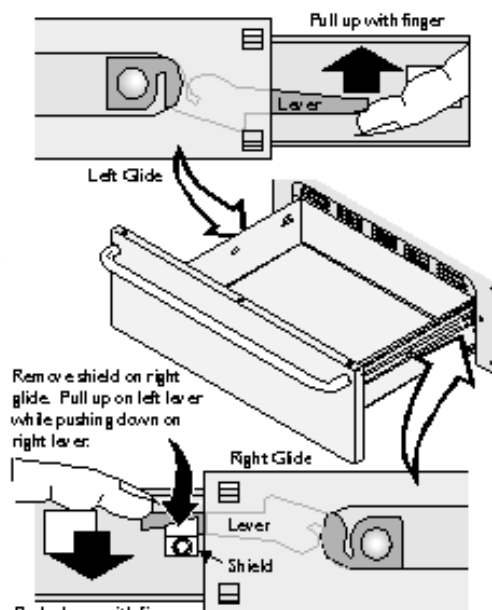

Fig. 1
When servicing a gas range the power supply should be checked at the wall outlet with a plug in circuit tester or volt meter. Make sure that the outlet is properly polarized and grounded. There are many good plug-in circuit/polarity testers available that will perform this test quickly and easily. When testing with a volt meter remember that the narrow slot in the wall outlet is the L1 or voltage side of the circuit and the wide slot is the neutral. The round or “D” shaped hole is the ground circuit. A properly polarized 120 volt wall outlet will have voltage between the L1 (narrow slot) and neutral (wide slot) as well as between L1 and ground (See Fig. 1 below). Do not assume that because the wall outlet has a ground slot that it is grounded. ***Check it out!*** Modern electronic controls must have a correctly polarized and grounded power supply for proper operation.
3. On the right glide you will find a shield attached with a hex-head screw (see figure 1). Using a 1/4" socket and ratchet remove the shield.